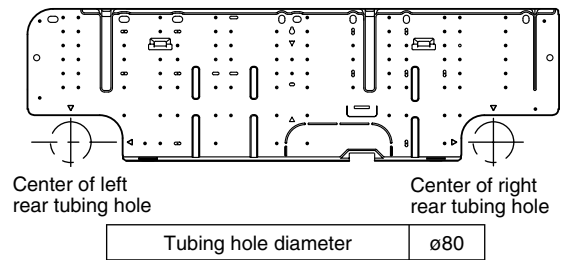

Fig. 3-15
- (1) Remove the rear panel from the indoor unit and place it on the wall at the location selected. Fix the rear panel and hook the unit onto the wall temporarily. Make sure the unit is horizontal using a carpenter's level or tape measure to measure down from the ceiling.
- (2) Determine which notch of the rear panel should be used. (Fig. 3-15)